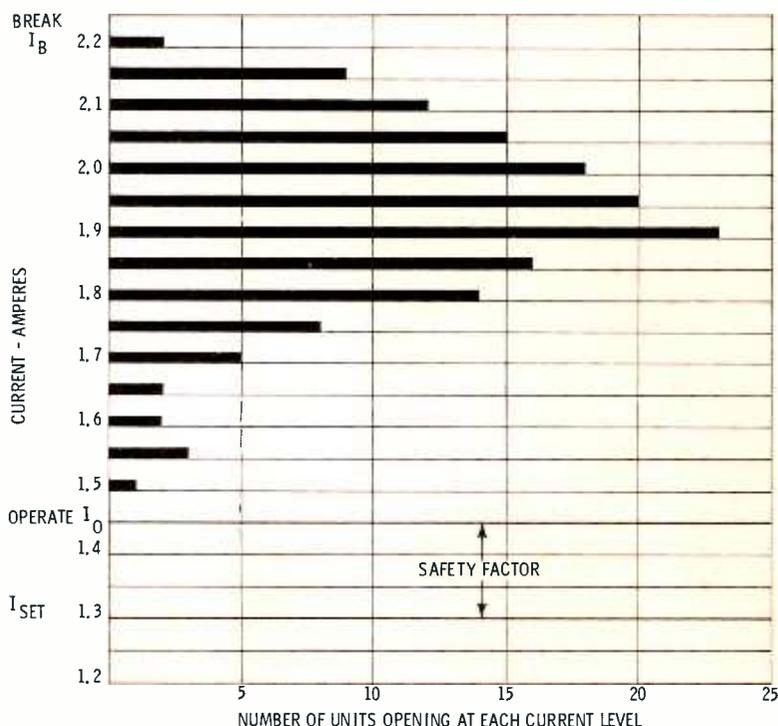

Fig. 2. An analysis of the actual operating range of a group of circuit breakers.
Fig. 2. In the previous example, 1.3 amperes (I_{set}) was the maximum line current drawn by the group of normally operating sets. Since a safety factor (10%) was desired to prevent unnecessary "nuisance" openings, the "operating current" (I_0) was established at 1.45 amperes. From this, the "break current" was calculated as being 2.2 amperes. Approximately 150 circuit breakers were adjusted for this range and then tested to find the actual current level at which they would open. The graph shows that most of them (23) opened at 1.9 amperes. Many more opened quite close to this level (20 at 1.95 amperes and 17 at 1.85 amperes). The opening level of the remaining circuit breakers tapered off so that all fell within the current range from "operate" to "break." It should be noted that the number diminished as the current approached the "break" current (2 opening at 2.2 amperes). Also note that none
Let's take a look at some of the problems that occur in TV sets returned for repair. One of the most common is that the protector keeps "popping out," or opening up, when there doesn't seem to be anything wrong with the set. The first analysis is that "the breaker is bad." This is possible, but this particular trouble symptom usually is caused by a change in circuit current attributed to the aging or changing of a component. This argument doesn't seem to stand up, however, if another circuit breaker of the same rating is substituted and the trouble symptom disappears. But wait—are all circuit breakers with the same rating actually the same? Not quite. Admittedly, they are quite close to being "peas in a pod"; however, remember Fig. 2.